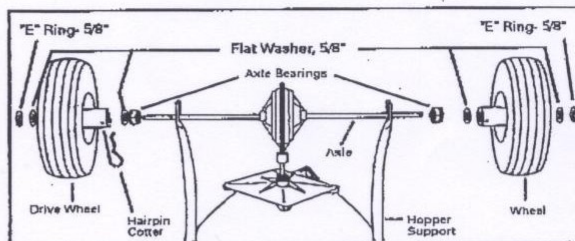

FIG 5.
**Refer to FIG. 5.**
IMPORTANT: Refer to Figures 5 & 8